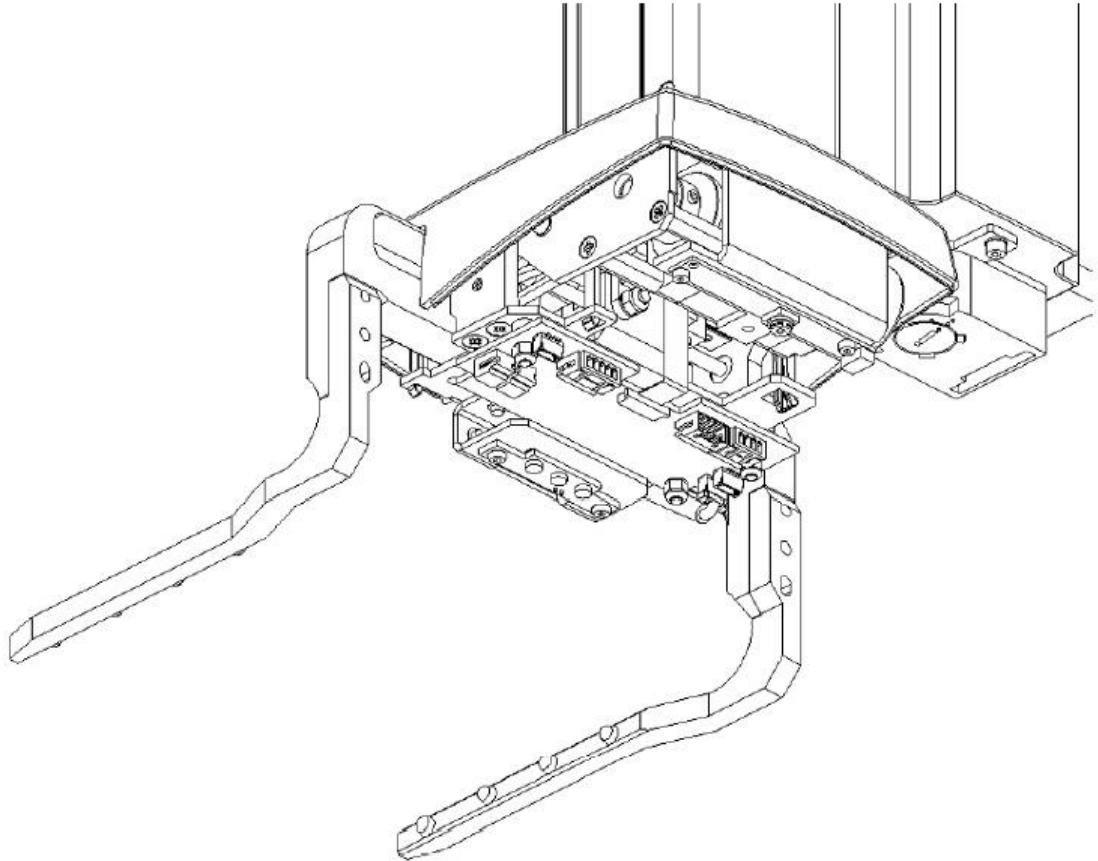

Figure H-6: Connecting the Rotator Flex Cable
2. Connect the Rotator Drive Flex Cable to the Gripper PCB as shown in Figure H-6.